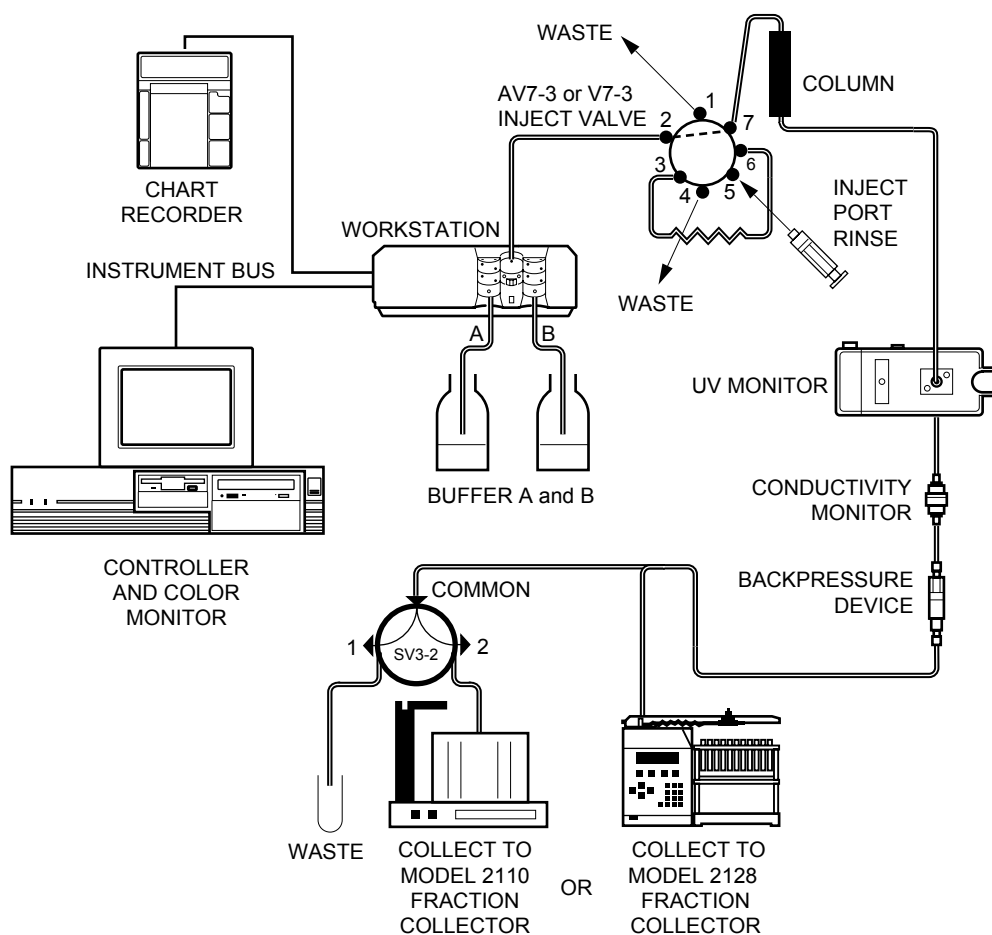

Figure 20. System Plumbing
- Cut a suitable length of 1/16" OD Tefzel tubing that will reach from the Gradient Pump outlet to port #2 of the inject valve. Refer to Figure 20.
- b. Connect a piece of 1/16" OD Tefzel tubing from port 1 of the SV3-2 valve (see figure 20) for use as a waste line.
- c. Connect a piece of 1/16" OD Tefzel tubing from port 2 of the SV3-2 valve (see figure 20) to the Model 2110 fraction collector drop-head. This tubing sits inside the drop-head, and no fittings are required.